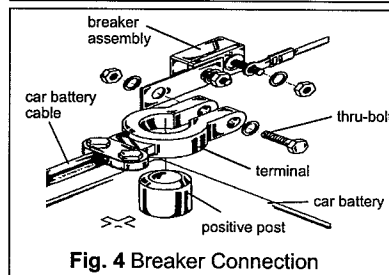

Fig. 4 Breaker Connection
5. Connect copper strip attached to the circuit breaker to the positive battery terminal thru-bolt. Never connect power cord to battery without circuit breaker. You must use a battery that will connect to the circuit breaker (**see Fig. 4**).